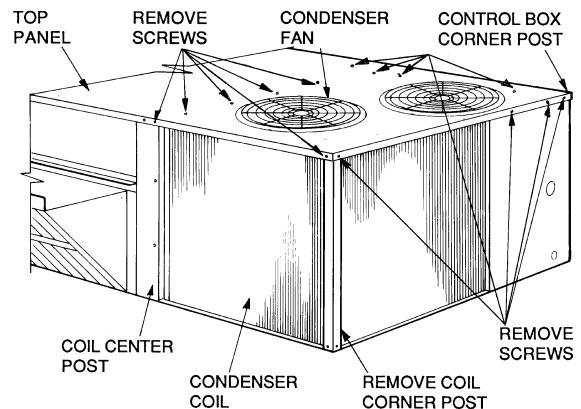
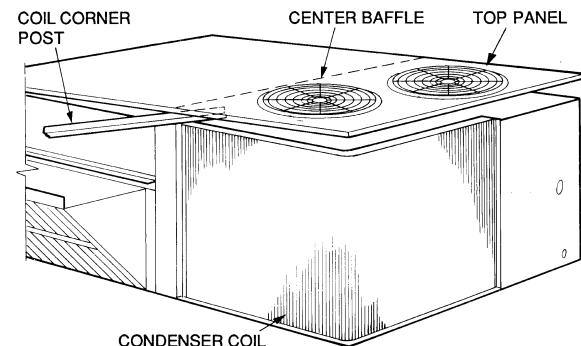

Fig. 43 — Cleaning Condenser Coil
Fig. 44 — Propping Up Top Panel
3. Remove condenser coil corner post. See Fig. 43. To hold top panel open, place coil corner post between top panel and center post. See Fig. 44.